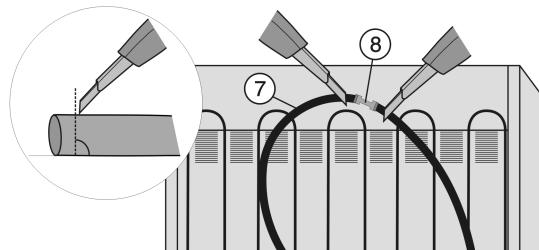

Fig. 35
- Slice open the water hose *Fig. 35 (7)* located behind the appliance both in front of and behind the connector *Fig. 35 (8)* (90° to direction of hose).